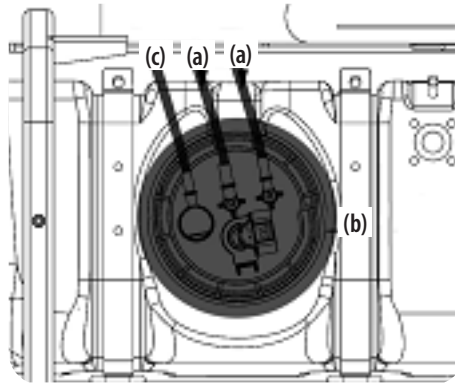

Figure 5-33
3. There are two main lines (a) coming into the primary fuel filter (b) and one main line (c) exiting the primary fuel filter (b). See Figure 5-33.